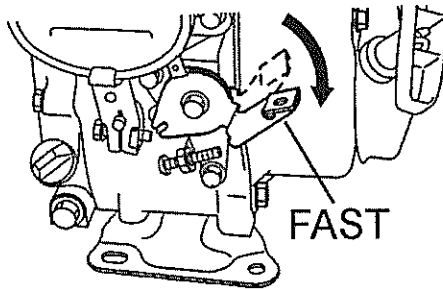

Figure 16. Throttle Lever (Fast)
8. To begin compacting, place the throttle lever (Figure 16) in the "**fast**" (run) position.